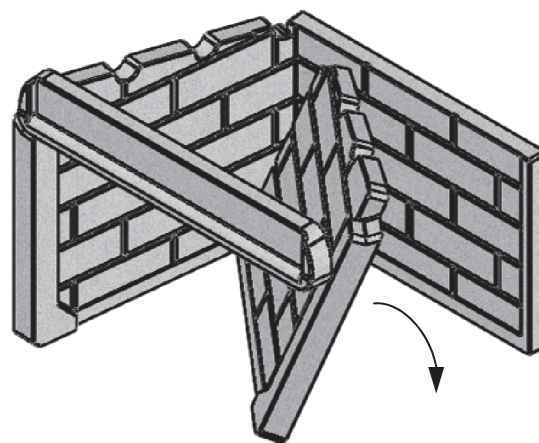

Figure 17 Right Side Refractory Bricks Installation
2. Place the baffle (1) above the other two tubes and ensure its proper orientation: narrow part towards the rear and grooves towards the bottom.
4. Continue by inserting the rear refractory brick in the firebox (2), then the left side refractory brick (3).
5. Then insert the refractory brick on the right side (4) of the firebox but do not position it yet. Ensure that it is resting firmly against right back corner of the firebox while being tilted at about 45° between the rear refractory brick and the right side of the firebox and also tilted with its bottom resting at approximately the middle of the firebox and the top closer to the back right corner (see Figure 17).
6. Next insert the top refractory brick (5) in the firebox and put its left end against the top front part of the left refractory brick. Lift the right end until it is in a horizontal position and then slide the right refractory brick until it is in place. The top refractory brick is supported by the two side refractory bricks.
8. Finally, install the front refractory brick (8).